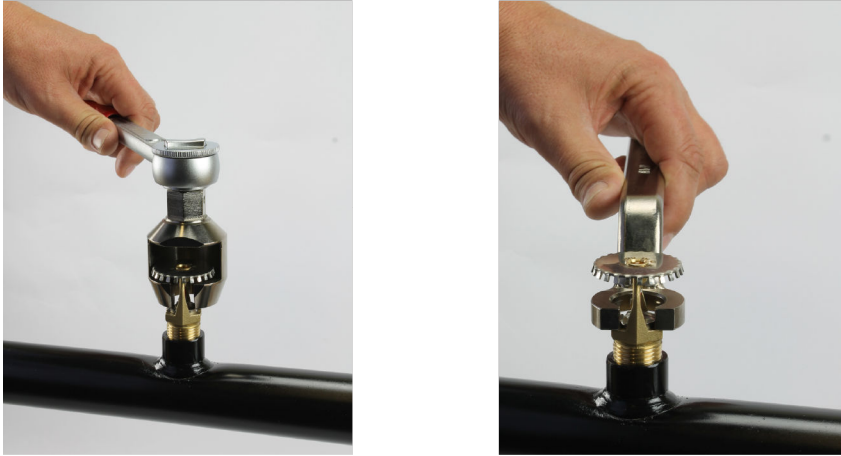

Fig. 5: Position the sprinkler socket (left) or sprinkler wrench (right)
3. Once the thread is positioned correctly, remove the protective cap from the side if necessary, carefully slide the sprinkler socket or sprinkler wrench sideways over the sprinkler (Fig. 5).